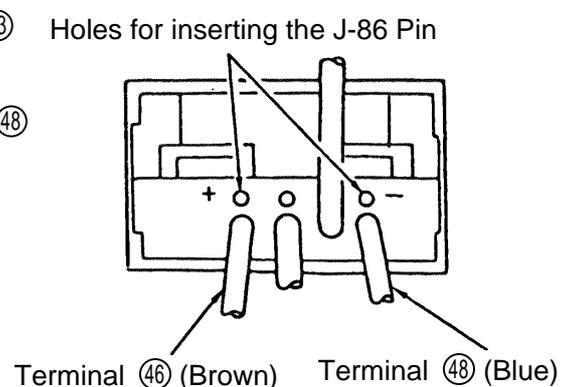

Fig. 2
Disconnect the Internal Wires (B) (24) (25) from the Motor (23) by melting their soldered connections with a soldering iron. The Internal Wires (B) (24) (25) and the Terminals (46) (48) can be extracted from the terminals of the Switch (42) by inserting a J-86 Pin (Special Repair Tool, Code No. 970828) into the holes provided on the Switch, as illustrated in Fig. 2, and bending the leaf springs away from the inner walls of the terminals of the Switch so that the internal wires can be gently pulled out by hand.